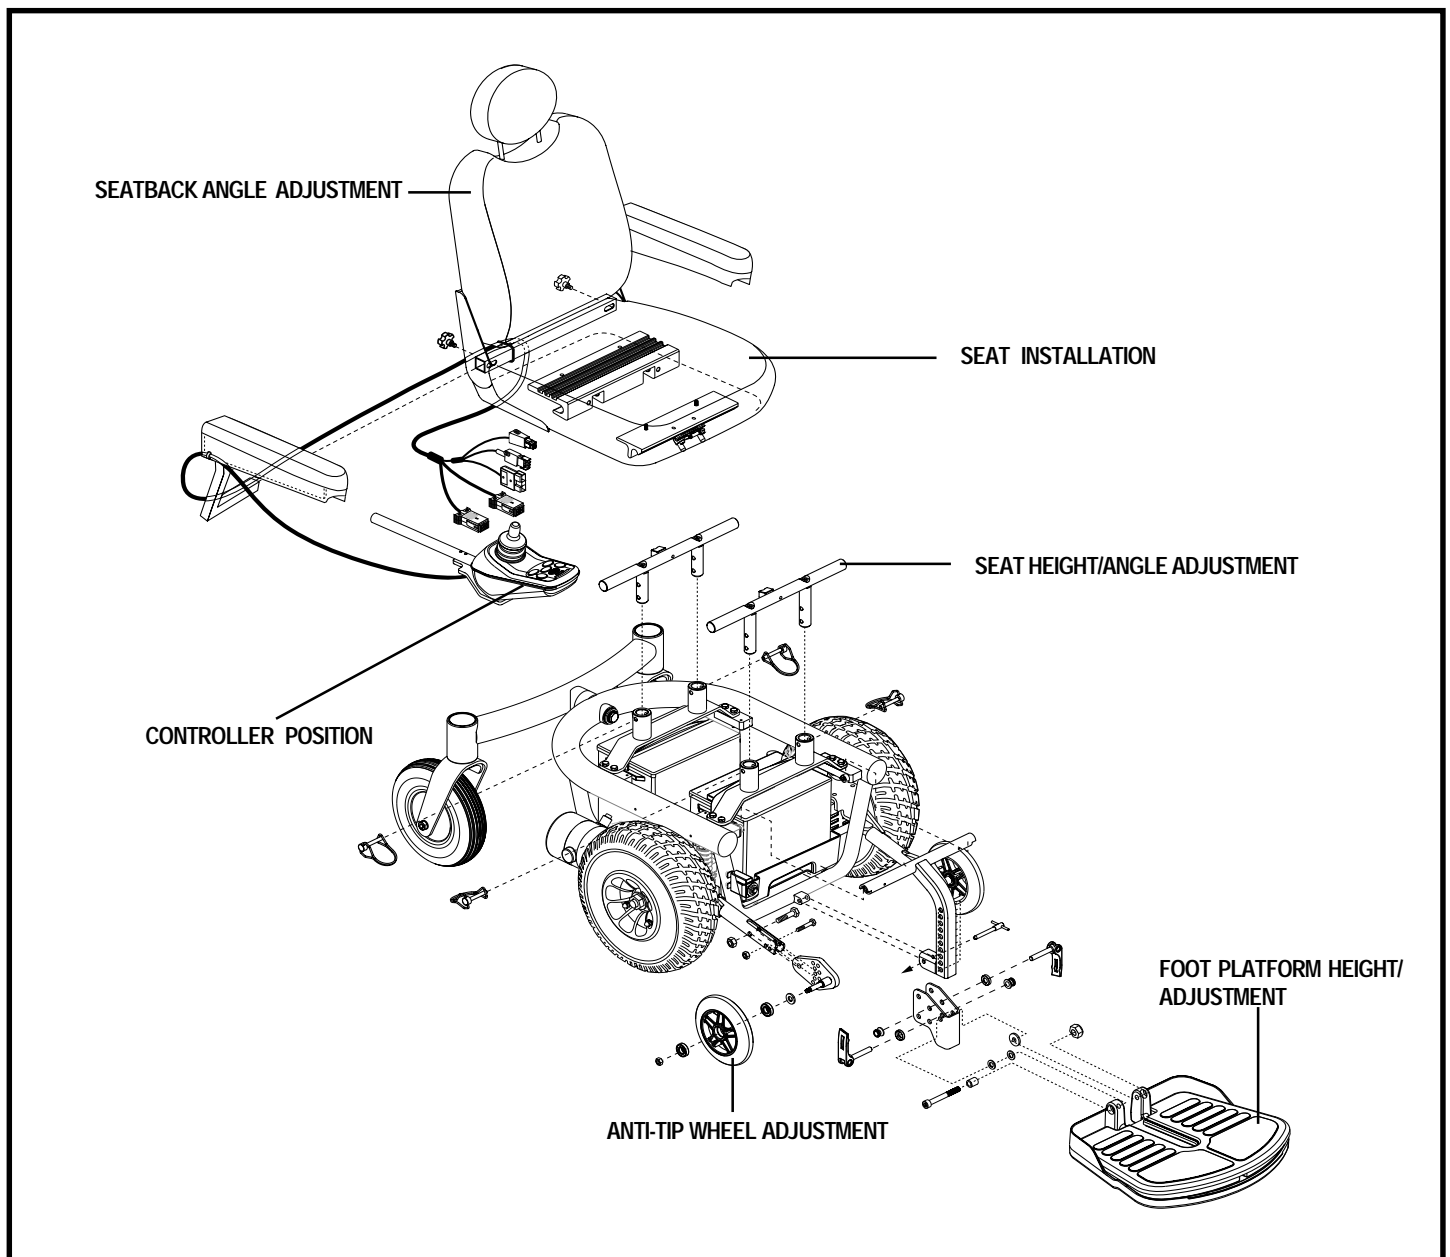

Figure 10. Jazzy 1103 Ultra Assembly View
Your power chair may require some assembly either before initial use or after transportation. It may also require disassembly to make some comfort adjustments. Figure 10 details those parts of the power chair that are designed to be disassembled and assembled by an end user or by a qualified caregiver before using the product or making comfort adjustments.
7. Route the controller connector to the back of the power base and secure the controller cable to the armrest receiver with wire ties. See figure 10.